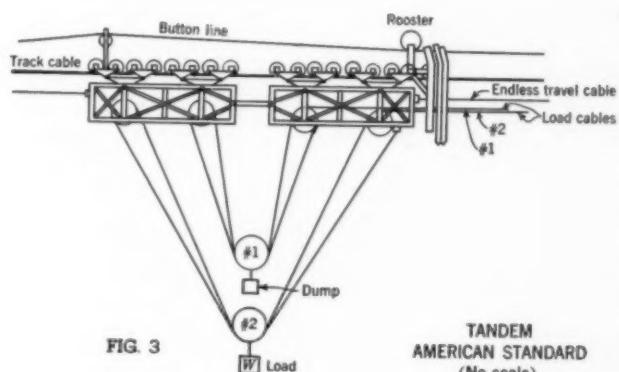

FIG. 3
Carriage designs range from the simple English with its two track wheels and two-sheave load-tackle frame, up through four-wheel, eight-wheel and twelve-wheel single frames, to tandem frames of eight wheels or more each (Fig. 3). The number and arrangement of the load-tackle sheaves depend on the user's requirements. For instance, at dams such as
**FIG. 3. FURTHER DEVELOPMENT** of American standard carriage is tandem type in which number of load-carrying wheels on track cable is increased and load sheaves are spread further apart to prevent twisting of load cable.